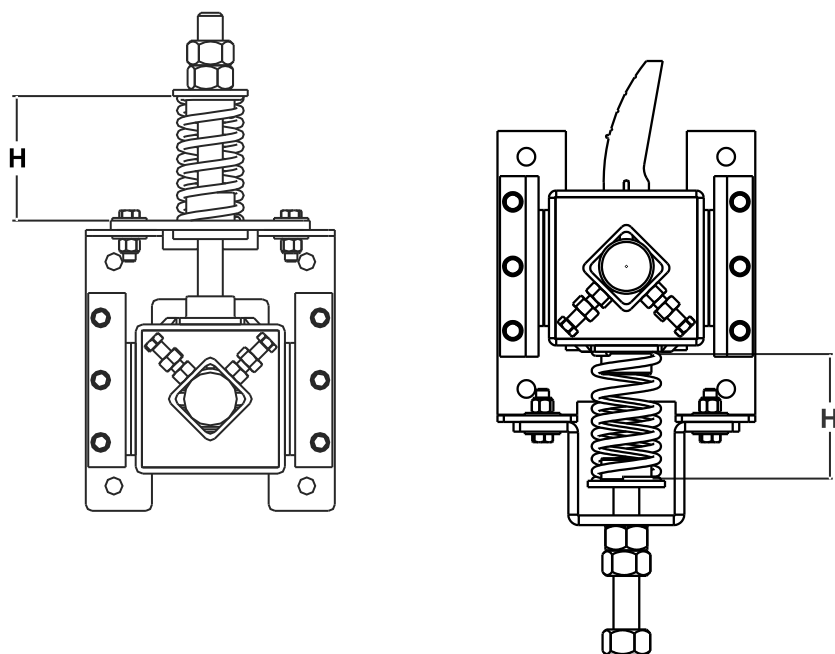

Figure 8. Spring Height (H) Measurement Location
Raise the Slide Blocks by evenly turning the adjustment bolts until the blade just contacts the belt. Check that the blade is evenly contacting the belt along the entire length of the blade. Once uniform blade/belt contact has been achieved, evenly raise the Slide Blocks causing the spring to load. Continue to tighten until sufficient upward force (blade pressure) has been achieved see Table 1 below. Spring Height (H) is the suggested tension starting point See *Figure 8*. Firmly tighten the lock nut on the two adjustment bolts. It maybe possible that there is enough play in the belt that there can be enough downward force via belt weight so that compressing the spring may not be necessary.